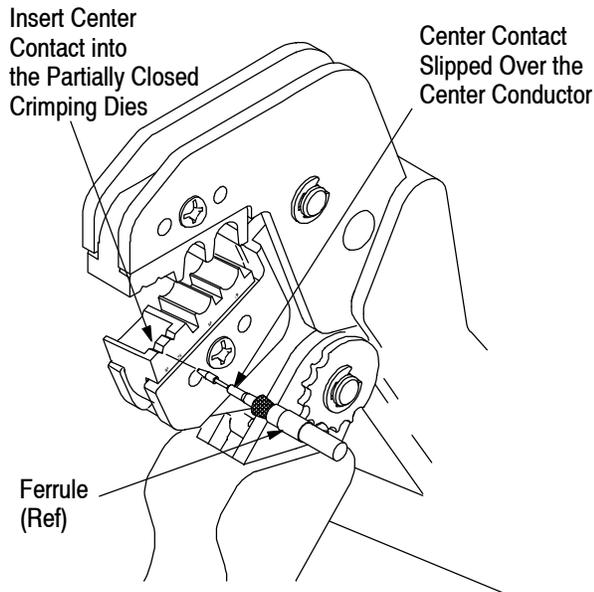

Figure 2
3. CRIMPING PROCEDURE (Figure 2)